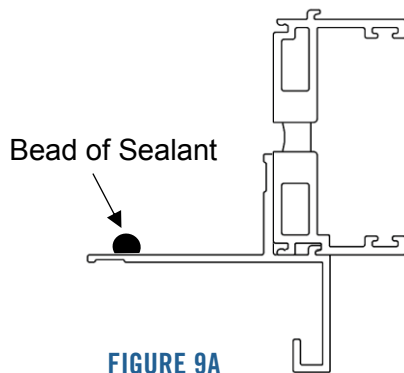
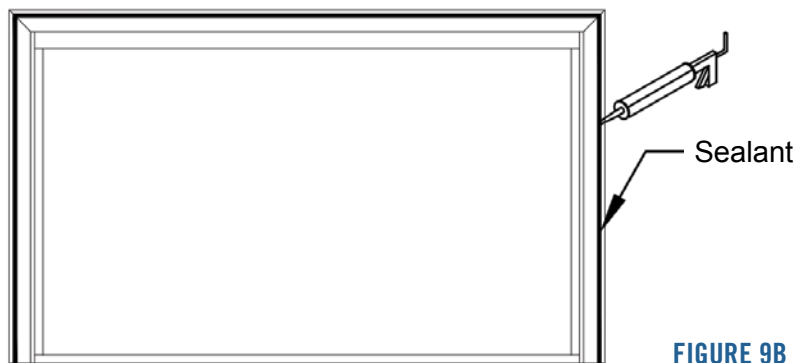

FIGURE 9A
FIGURE 9B
13. Apply a continuous bead of sealant on the nail-fin (Part #9, interior side as shown in figure 9a) around the perimeter of the head (Part #10) and jambs (Part #11) of the frame as shown in figure 9b. This includes the nail-fin corner adapter (Part #8). Sealant should conform to AAMA 802.3-16 and 803.3-16.